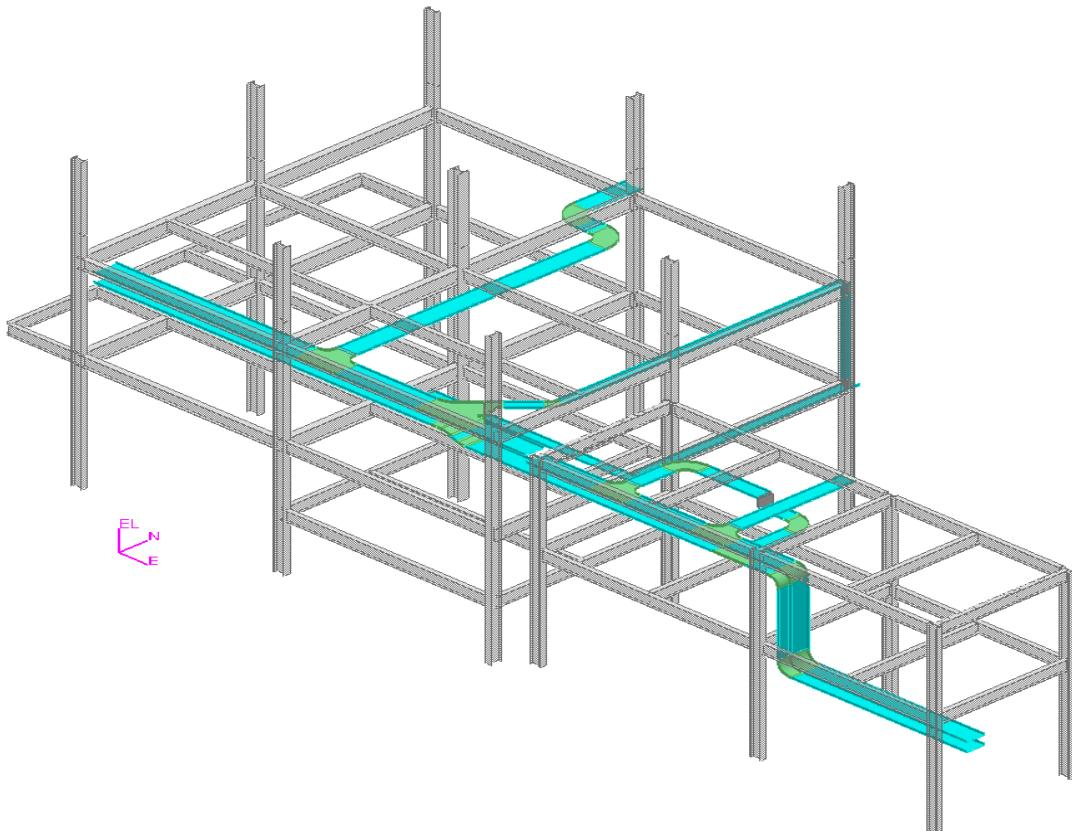

Figure 19: Routed Cable Trays in U02 and U03 Units
45. After inserting the bends and connecting the trays, the routed cable trays should resemble Figure 19.